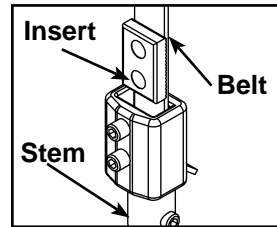
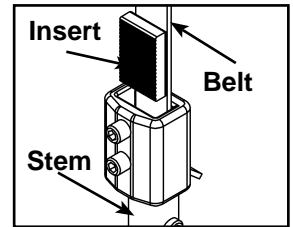

Figure 10A
Figure 10B
- D. Verify belt and insert are installed properly, as shown in Figure 10A. **NOTE:** Do not install the insert backwards as shown in Figure 10B.